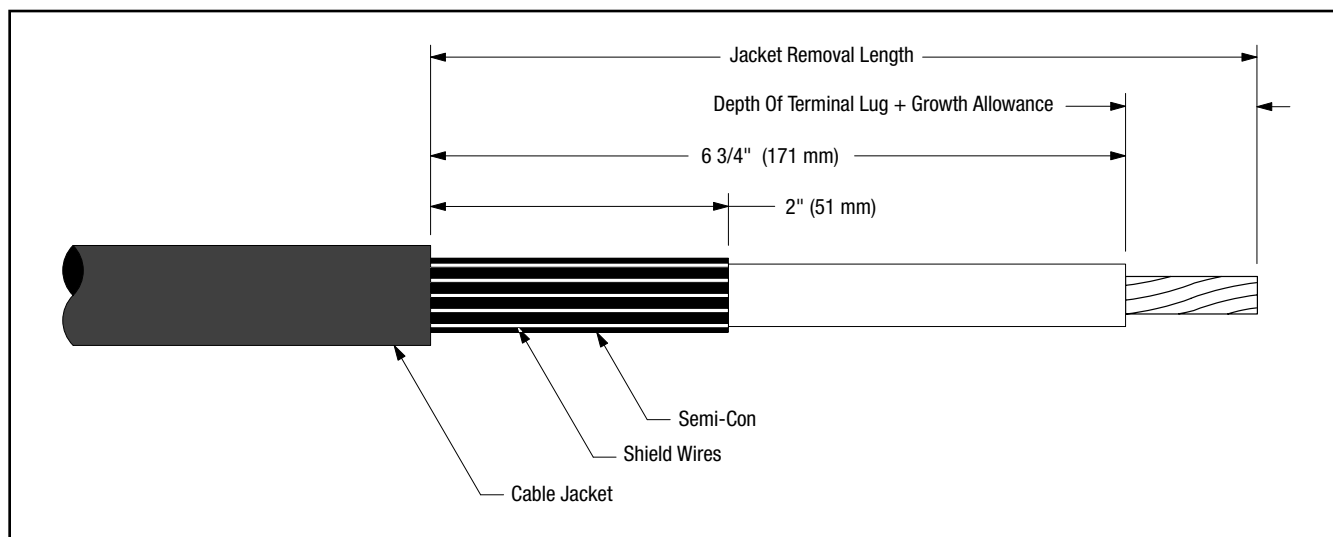
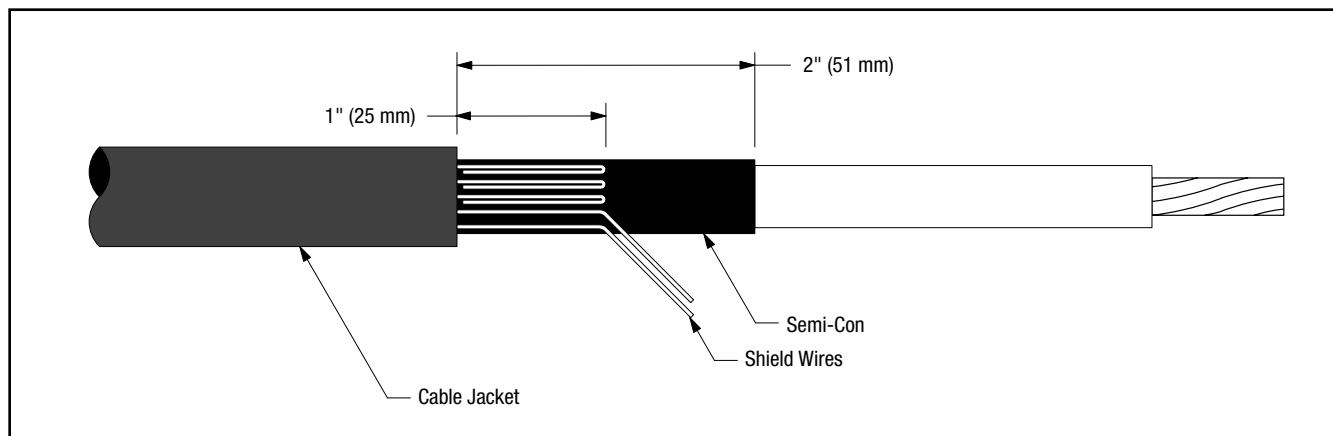

Figure 7
Figure 8
7.2 Prepare cable using dimensions shown in *Figure 7* and *Figure 8*. **BE SURE TO ALLOW FOR DEPTH OF TERMINAL LUG.**
7.3 Bend leading 1" (25 mm) of exposed shield wires back upon themselves to jacket edge (*Figure 8*).